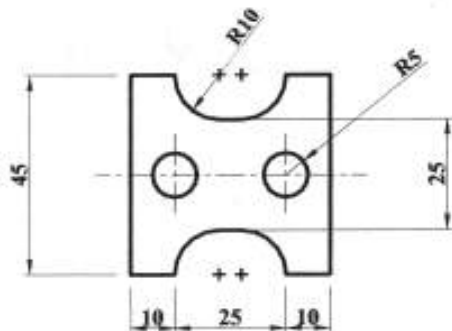

Fig: 1
1. Design a progressive die for the component shown in Figure 1
2. a) List the name of different types of stoppers and draw a neat sketch of it that used in design of progressive die of component shown in Fig. 1. **8**
- b) Explain the methods of mounting of the punch and design and draw the punch plate for component shown in fig.1. **6**